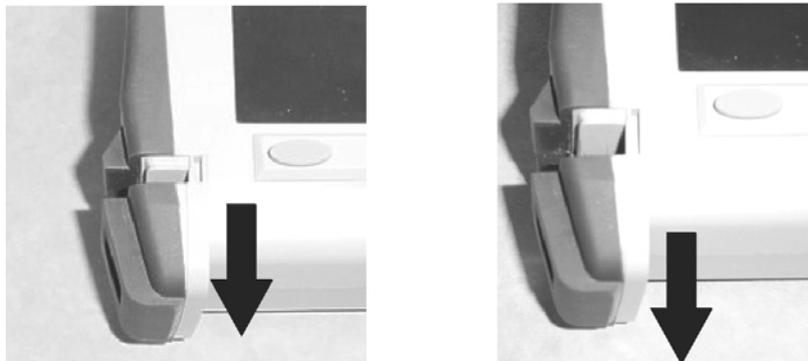

Figure 4-3. Removing the Battery Access Door
3. Remove the battery access door, as illustrated in Figure 4-3.
1. Stand the unit up in the normal operating position and remove the battery door by inserting left thumb into notch and pushing downward. See Figure 4-3 and Figure 4-4.